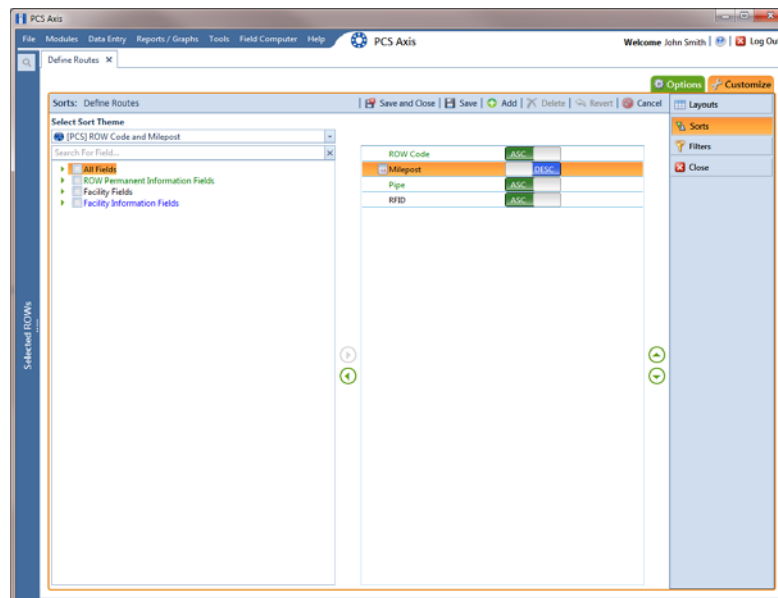

Figure 8-45. Sorts
- 3 Click the **Customize** tab , then the **Sorts** button  to open the *Sorts* page (Figure 8-45, page 370).